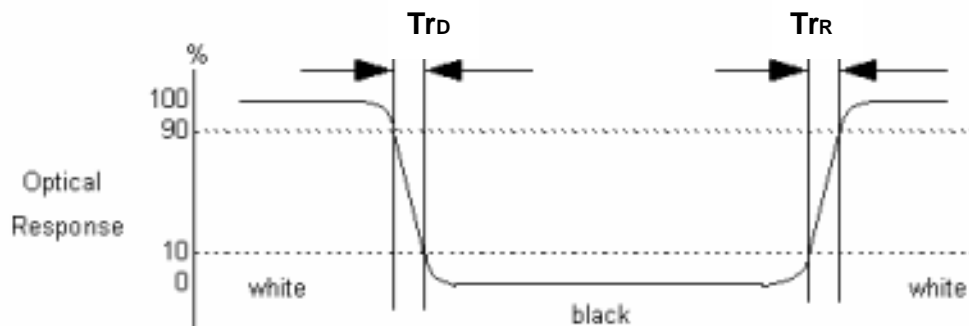

Fig.4-3 Response time
4. Response time is the time required for the display to transition from white(L255) to black(L0) (Decay Time, $Tr_D = T_f$) and from black(L0) to white(L255) (Rise Time, $Tr_R = T_r$). The response time interval is between the 10% and 90% of 1st frame amplitudes. For additional information see FIG 4-3.